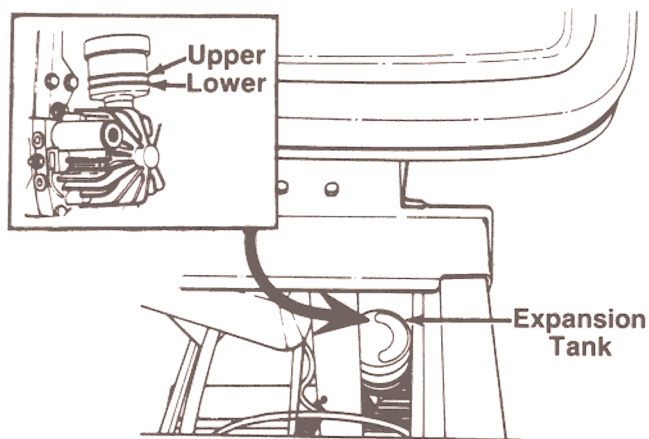

FIGURE 17.
The transmission fluid level should be checked prior to initial use. The level should not be above the LOWER mark which is about 1/4" from the bottom of the expansion tank. See figure 17. Overfilling reduces the expansion area in the expansion tank and fluid will spill at operating temperatures.
3. Check the fluid level in the expansion tank. See figure 17.